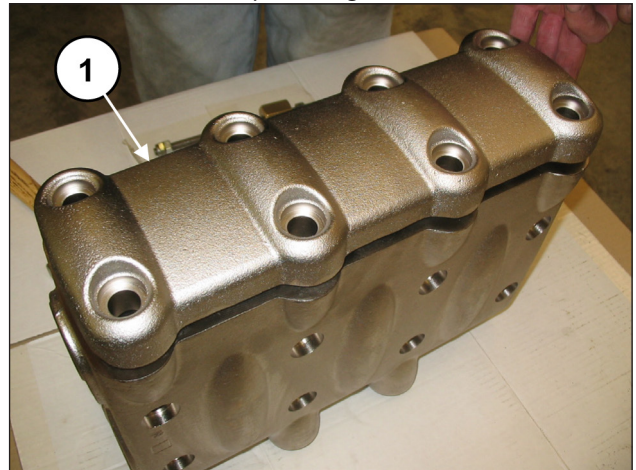
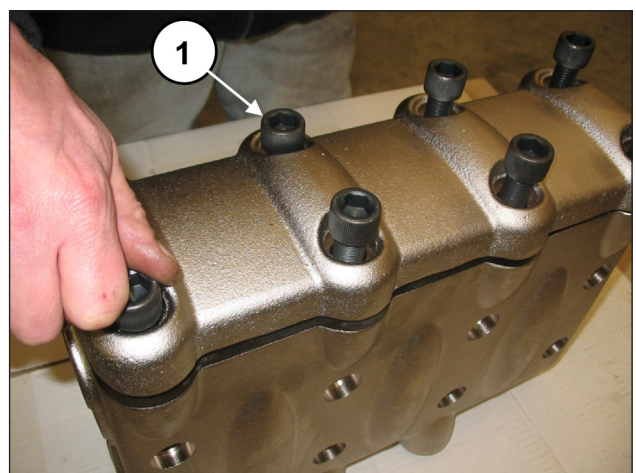

Fig. 132
Fig. 133
After having completed assembly of the valve units and the valve plug, apply the valve cover (pos. ①, Fig. 132) and screw in the 8 M16x55 screws (pos. ①, Fig. 133).